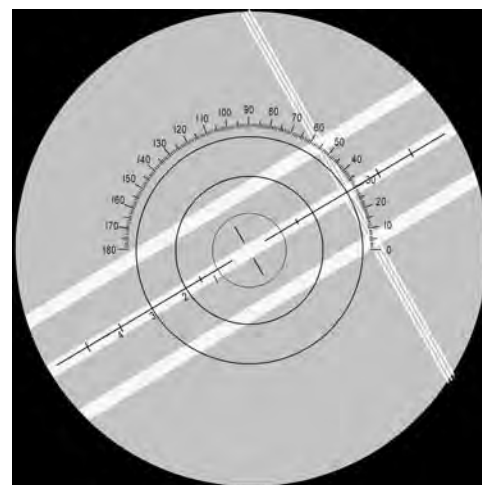

Figure IU-07 3 Diopters of Prism
4. Rotate the Prism Scale until the line of the scale passes through the center of the target. Refer to Figure IU-07.
Note: Figure IU-07 indicates a prism power of 3 diopters at an axis of 35°.